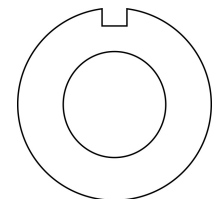

Figure 4-44 Air Rake Alignment Ring
3. Reinstall air rakes making sure that they are oriented as before with the notch on the alignment ring facing up, Figure 4-44.